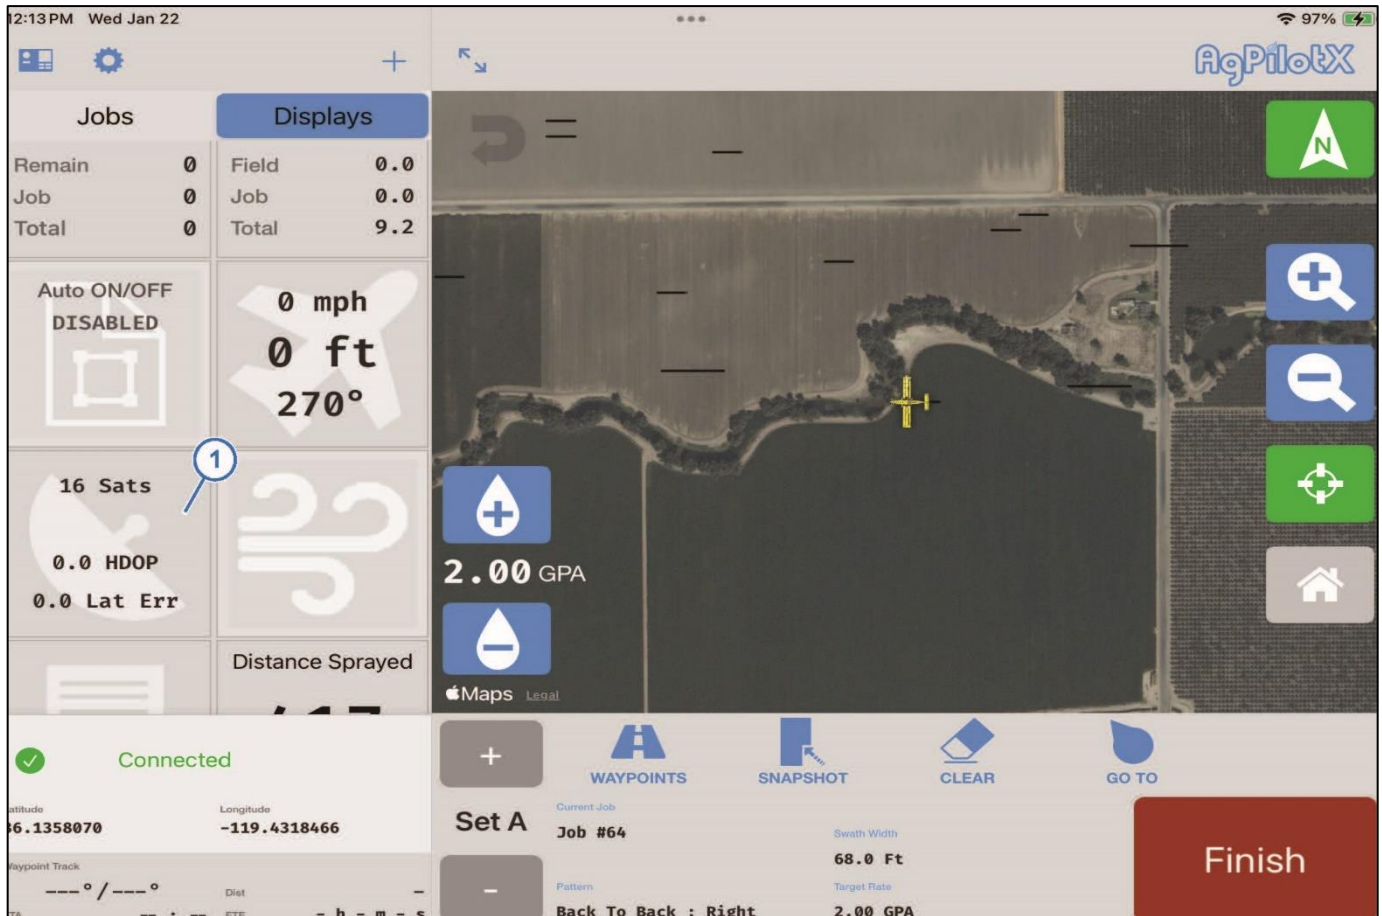

Figure 1: Satellite Icon
2. In the AgPilotX interface, scroll down on the left side until you see the Satellite icon (1).
3. Select the **Satellite** icon (Figure 1).